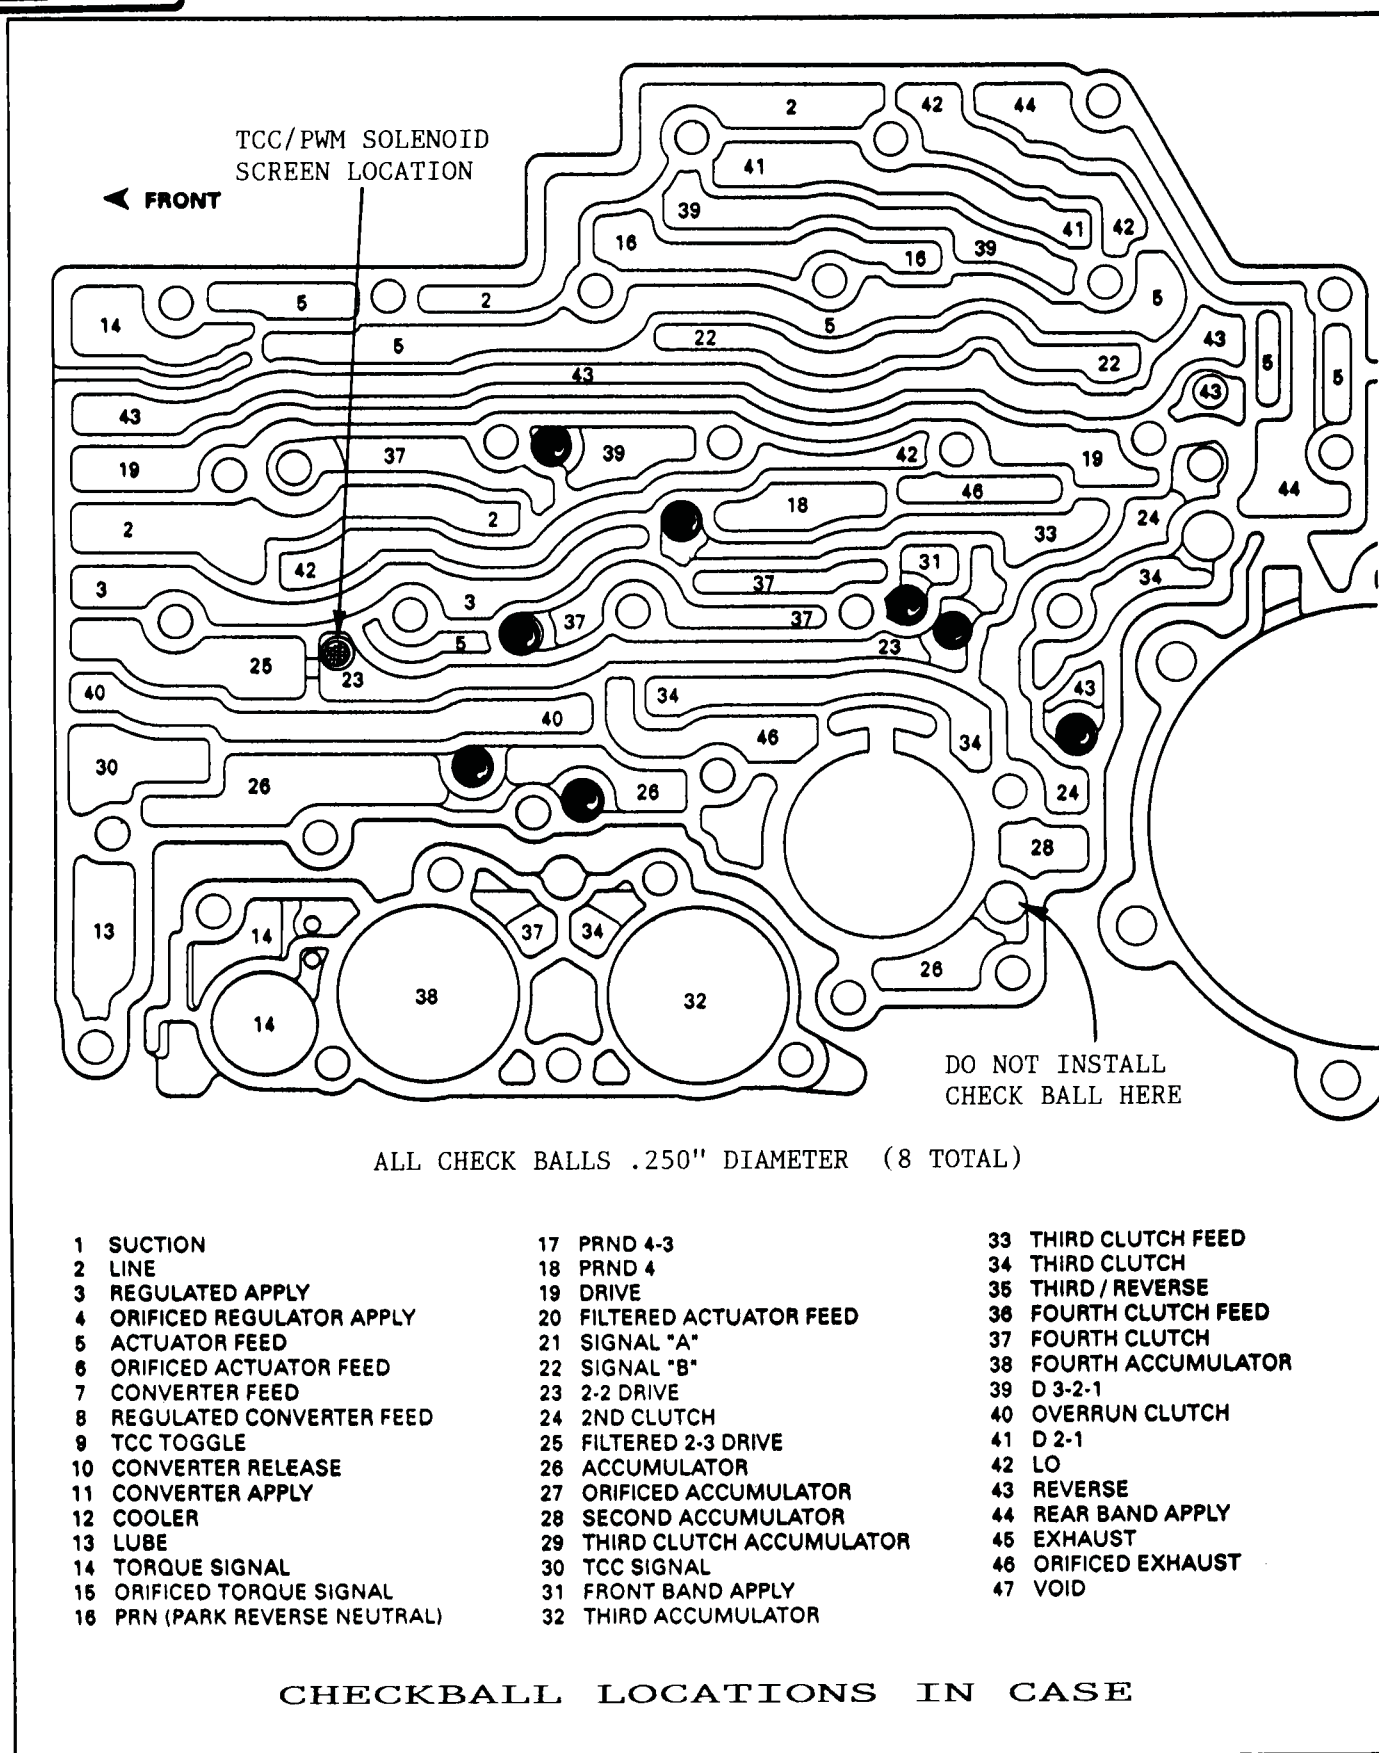

Figure 34
22. Remove the TCC/PWM solenoid screen from the case passage (See Figure 34).